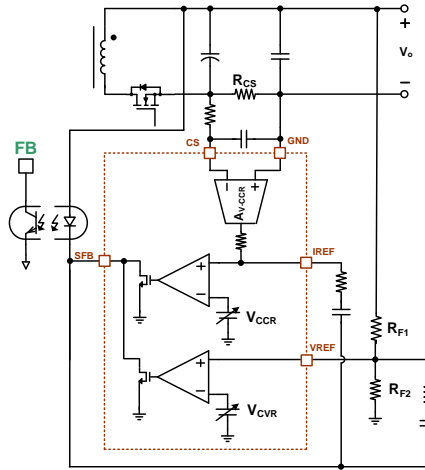

Figure 18 Constant Voltage and Constant Current Circuit
The internal constant voltage control block regulates adaptive output voltages. Output voltage is sensed through an external resistor divider. The sensed output voltage is connected to the VREF which is the non-inverting input terminal of the internal operational amplifier. The inverting input terminal is connected to the internal voltage reference (V_{CVR}) which can be adjusted according to the requested output voltage via Quick Charge 3.0 protocol. The amplifier and an internal switch operate as a shunt regulator. The output of the shunt regulator is connected to the external opto-coupler, and this pin is named as Secondary Feedback (SFB). To compensate output voltage regulation being stable, one capacitor and one resistor are connected typically between the SFB and VREF pins as shown in Figure 18. The output voltage can be derived as shown in equation (1) and the recommended ratio of the resistor divider is 5.
In order to support adaptive constant output current, FAN6290Q incorporates the constant-current control circuit internally. Output current is sensed via a current-sense resistor, R_{CS}, which is connected between the CS pin and GND pin. The sensed signal is internally amplified, and this amplified voltage is connected to the non-inverting input of the internal operation amplifier. Likewise the constant voltage amplifier circuit, it also plays a role as a shunt regulator to regulate the constant output current. In order to compensate output current regulation, one capacitor and one resistor are connected between IREF and SFB pins typically as the Figure 18. The constant output current is decided by the equation (2). 30 mΩ is typically used for the sense resistor.
Since CS pin senses small amounts of voltage, the sensing resistor should be positioned as close as possible to CS pin. Shown in Figure 18, an RC low pass filter can be added on the CS pin to be immunized from noise.